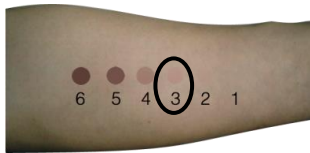

Figure 4-6
- ⑤ Mark the position of each hole with a marker or by other means.
- ⑥ For the next 24 hours, the test site should be protected from any artificial and natural UV light source.
- ⑦ After 24 hours, the patient should go back to the hospital.
- ⑧ After the irradiation, six irradiation spots will gradually show on the skin, as shown in Fig. 4-6. According to the mark, determine the test spot (No. 1 to 6) for each irradiation doses.
For example, in Figure 4-6, the patient's skin type is III, and the patient accepted the MED automated test by the equipment that emitting six different doses of UVB automatically (for dose values, please refer to the Table C-2 in Appendix C). After the test, it was judged that the third spot is the first one to generate erythema, and the dose of the erythema is 150 mJ/cm^2 , that is, the MED value of the patient is 150 mJ/cm^2 .